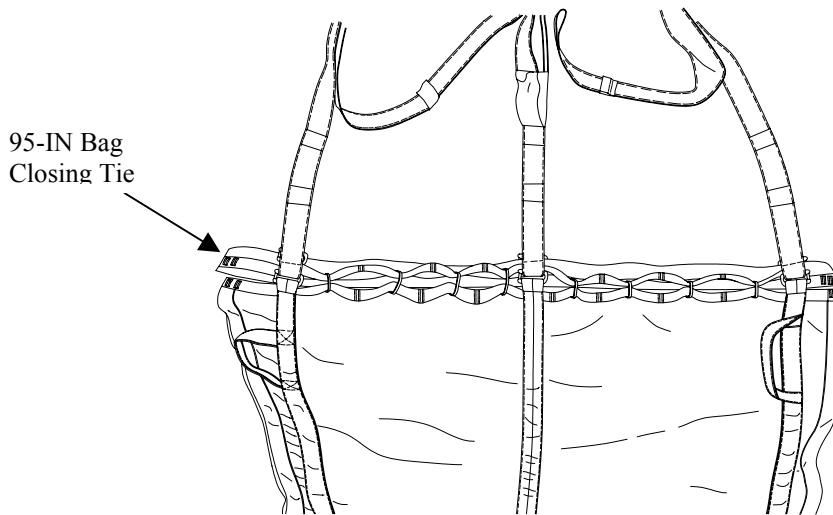

Figure 11. Extraction Line Bag Closed.
- e. Using running end of attached 95-inch closing tie, lace lower end of panels closed, working from bottom to top and left to right, forming half-hitches between closing loops. Secure end of closing tie with three alternating half hitches and an overhand knot in the running end. Trim excess (figure 11).